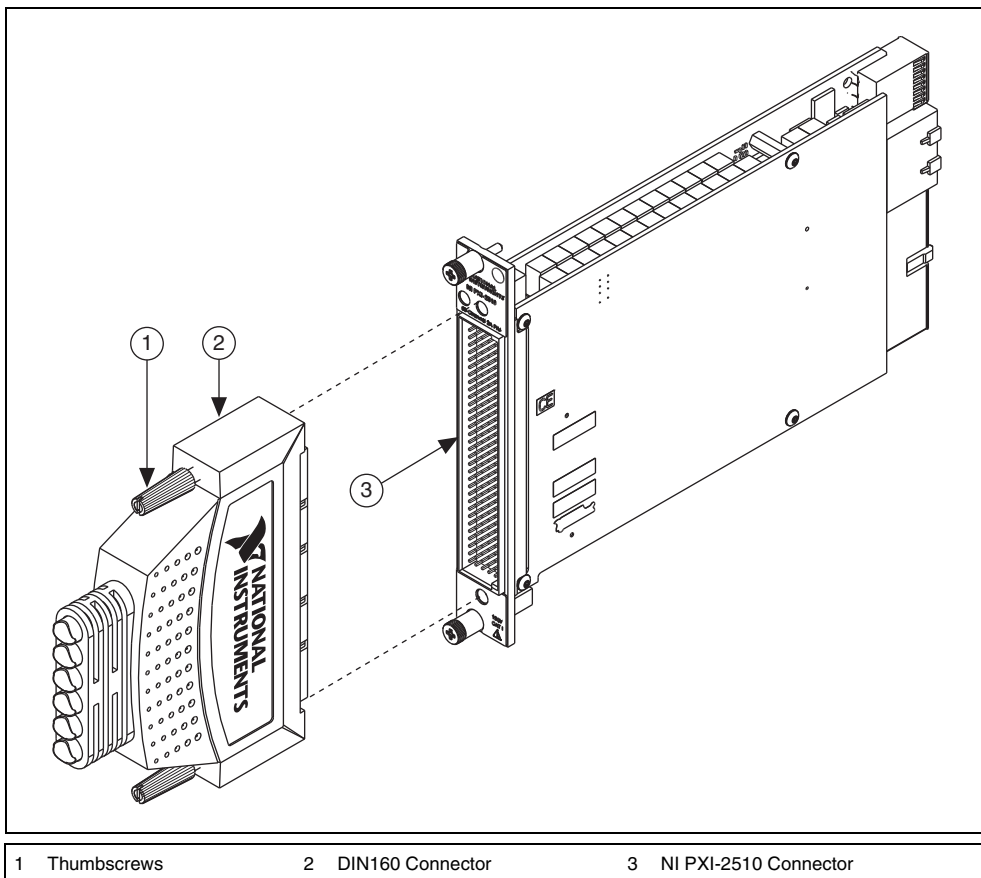

Figure 1. Connecting the DIN160 Connector to the NI PXI-2510
1. Connect the DIN160 connector to the NI PXI-2510 connector on the switch module as shown in Figure 1.